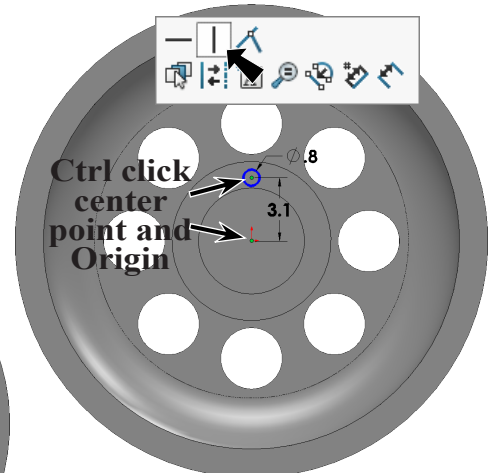

Fig. 25
Step 8. **Ctrl click centerpoint of circle and Origin**  to select both. Release Ctrl key and click **Make Vertical**  on the context toolbar, **Fig. 25**.